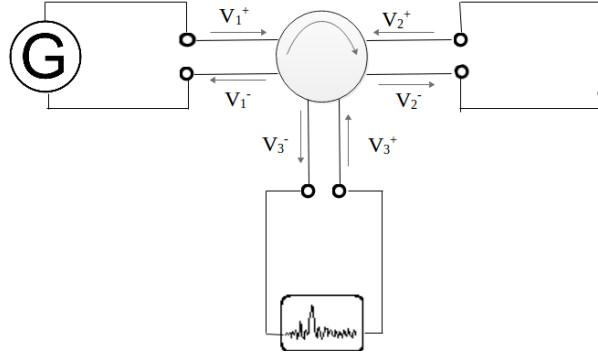

Figure 6: Measure transmission loss @ port3 ,short circuit @Port2
2.6 Fifth Step: Measure Isolation at port 3, Short circuit(SC) at port 2
- The set up would like figure 6.